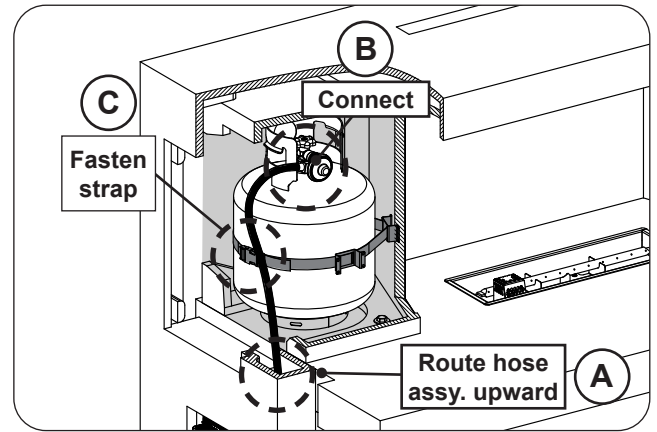
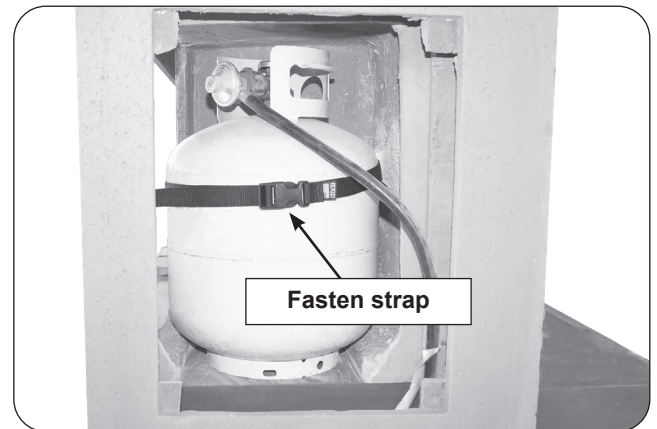

Fig. 24-1 L.P. Cylinder placement
Fig. 24-3 Secure L.P. cylinder
2. Route the hose assembly up through the hole in the housing to the propane cylinder. Attach the regulator end of the hose assembly to a propane cylinder (not included) and tighten. See Fig 24-1 and 24-2.
3. The propane cylinder (not included) is to be located inside the unit, via the storage door opening. Insert the cylinder and secure it using the strap. See Fig. 24-1 and Fig. 24-3.